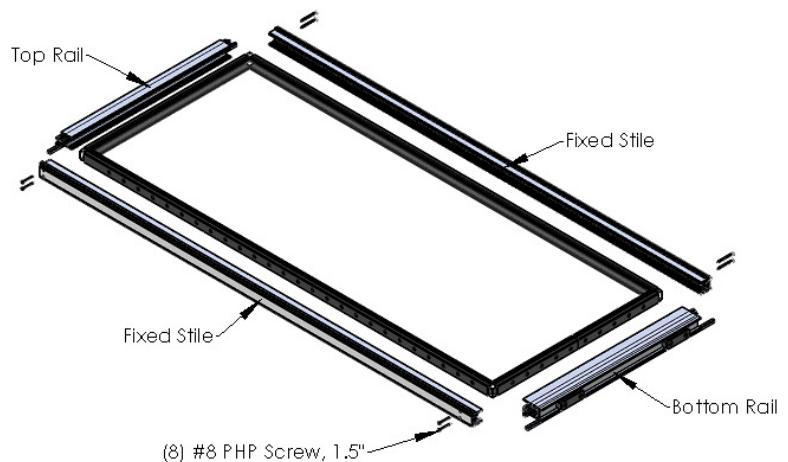

Figure 9:
- Finish assembly by inserting (8) #8 x 1.5" pan head screws into the fixed stile screw grooves in the top and bottom rails (Figure 9).